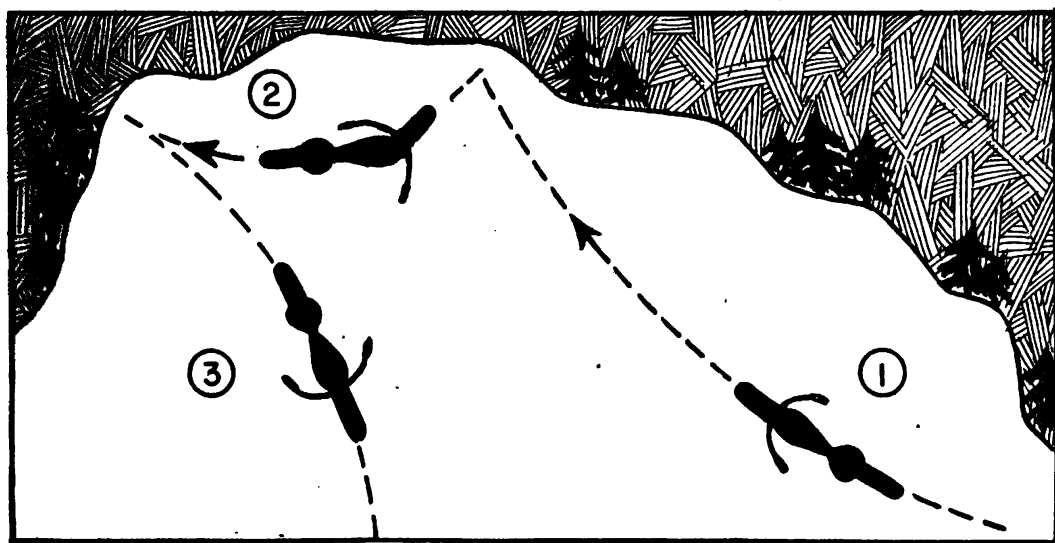

FIGURE 15.—Turning a solo motorcycle on an upgrade.
*b. Turning on a slope.*—To turn around, roll the motorcycle back a little, steering it so that it will face downward. (See fig. 15.) If